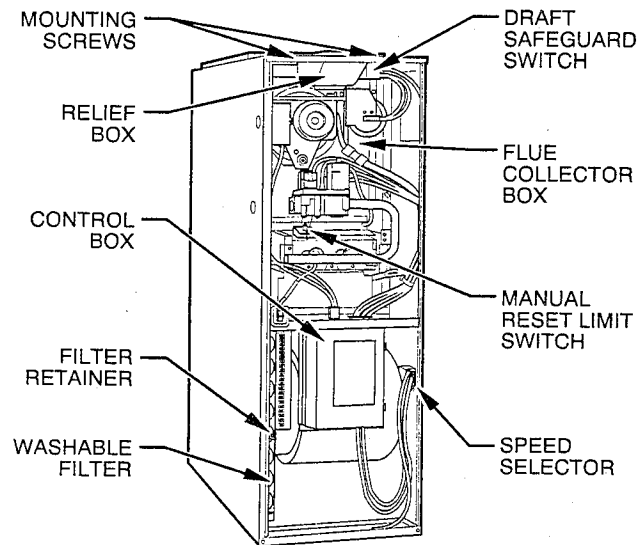

Fig. 6—Model 58PAV Upflow
Each furnace requires 1 or 2 filters which are installed in the blower compartment. (See Fig. 6.) To remove filters for cleaning or replacement, proceed as follows:
- Release filter retainer from clip at front of furnace casing. (See Fig. 6.) For side return, clips may be used on either or both sides of the furnace. Slide filter out.
4. Remove electrical leads from numbered side of speed selector. (See Fig. 6 and 7.) Note location of wires for reassembly.
4. Remove 2 screws that secure relief box. (See Fig. 6 or 7.)